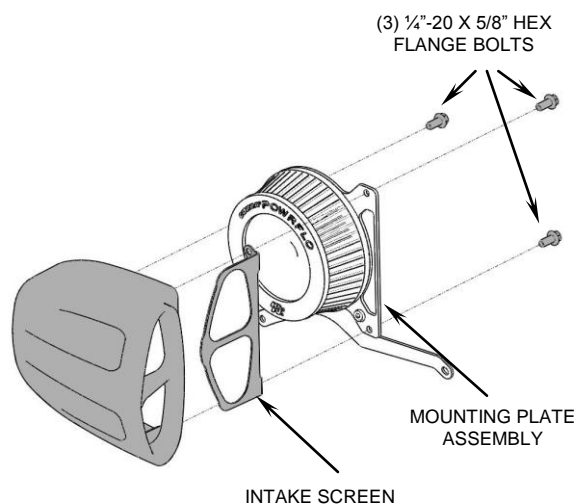

FIGURE 3
13. Place intake cover over the mounting plate assembly and align the mounting holes to the threaded bosses. Insert the (3) supplied 1/4"-20 x 5/8" flange bolts and tighten the mounting plate to the intake cover. See Figure 3.